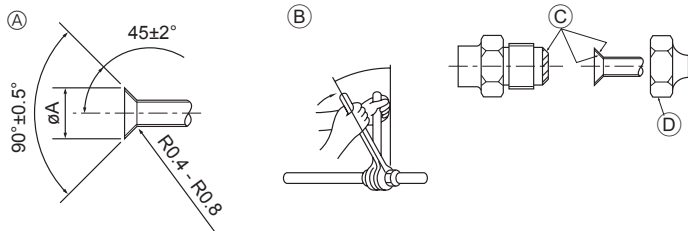

Fig. 4-1
- (B) Refrigerant pipe sizes & Flare nut tightening torque
- (C) Do not apply refrigerating machine oil to the screw portions. (This will make the flare nuts more apt to loosen.)
- (D) Be certain to use the flare nuts that are attached to the main unit. (Use of commercially-available products may result in cracking.)
4.1. Connecting pipes (Fig. 4-1)